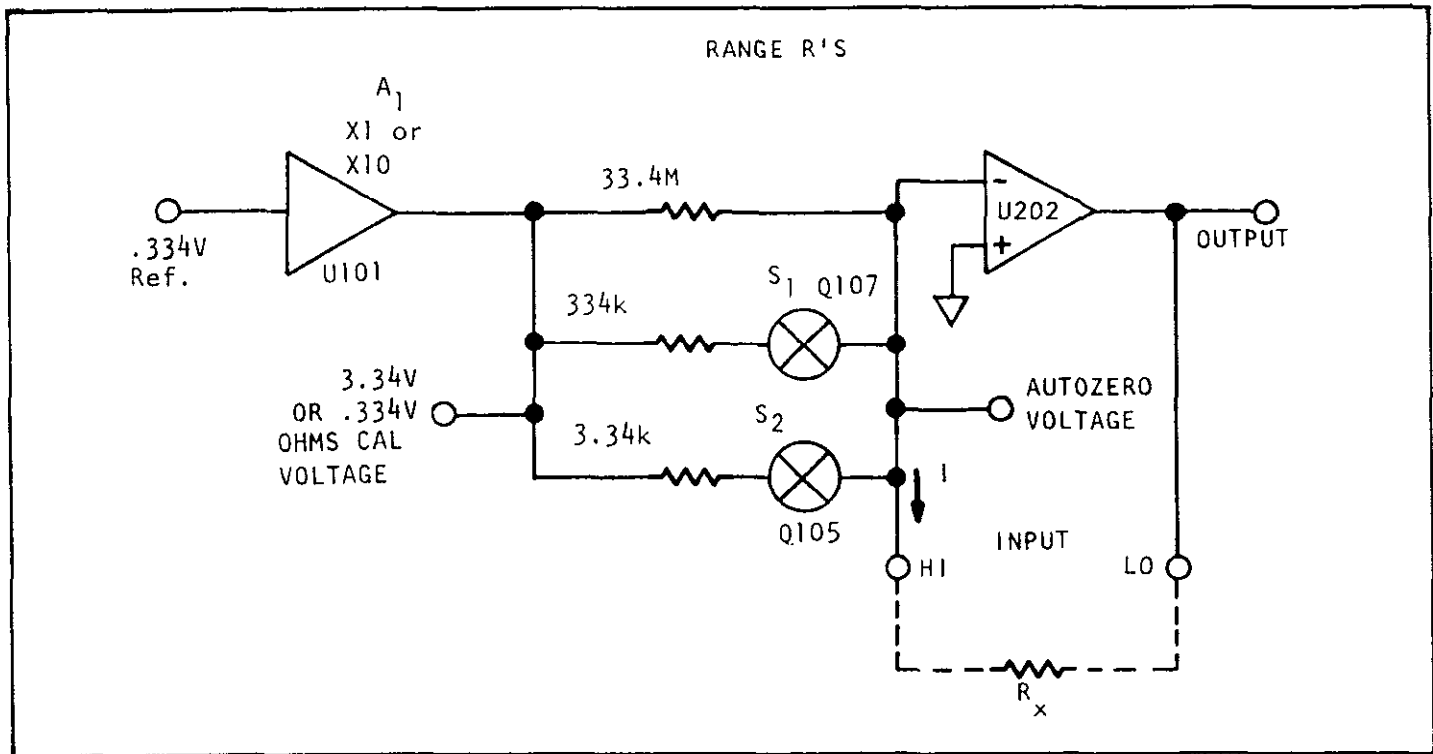

FIGURE 5-7. Simplified Ohms Converter, Two-Wire Ohms Configuration.
1) The ohms converter circuit basically consists of a current generator and summing amplifier. Simplified operation for the two wire ohms configuration is shown in Figure 5-7.